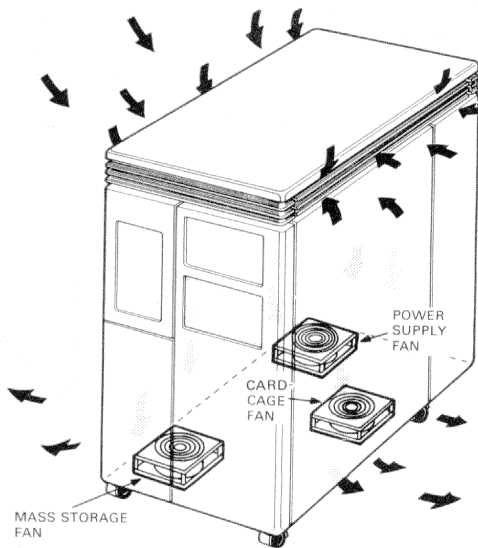

Figure 1-4 Airflow
1.3.1.1 Air Circulation – Three fans in the BA123-A frame draw air from the bottom of the enclosure. (Figure 1-4) Air is drawn from below the module card cage, behind the control panel, and from inside the power supply.